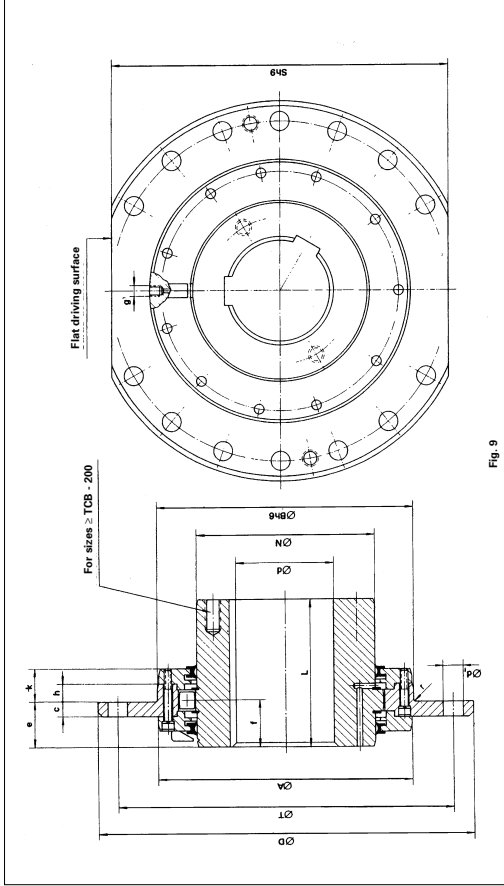

Fig. 3
- **Important:** If the coupling is supplied without machining, it will be necessary to dismount it in order to carry out the corresponding machining. Once machined, during mounting the hub and sleeve must be connected lining up the mark on the hub with the mark on the sleeve with that on the sleeve (See mounting reference Pos. 14, Fig. 3 on Page 1). After machining, apply an antioxidant.
- Mount the sleeve on the hub respecting the mounting mark Pos.14, according to Fig. 3.